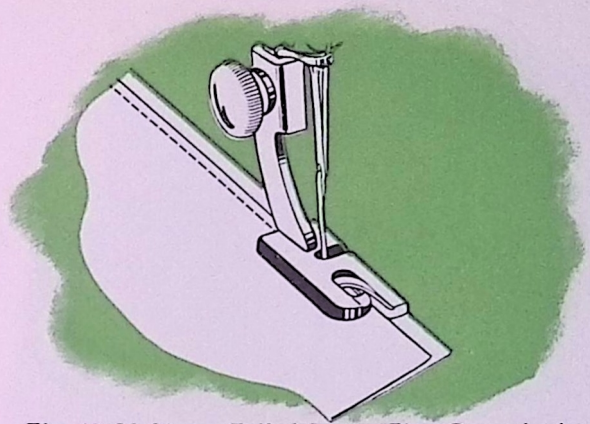

Fig. 40. Making a Felled Seam (First Operation)
1. Place right sides of material together, having edge of upper piece about 1/8 inch to left of edge of under piece. Stitch the two pieces together, using hemmer as a presser foot. Guide both pieces by the projecting toe of hemmer, as shown in **Fig. 40**.